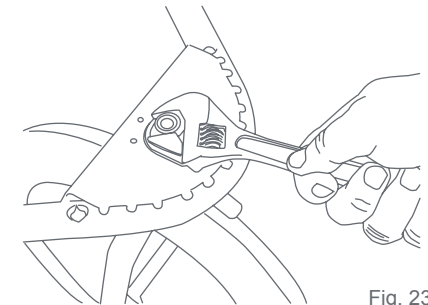

Fig. 23
23) • Remove footrest to access nut. You can use a standard crescent wrench to tighten the nut (Fig. 23). **DO NOT OVER TIGHTEN** this can cause damage to the wheel housing.